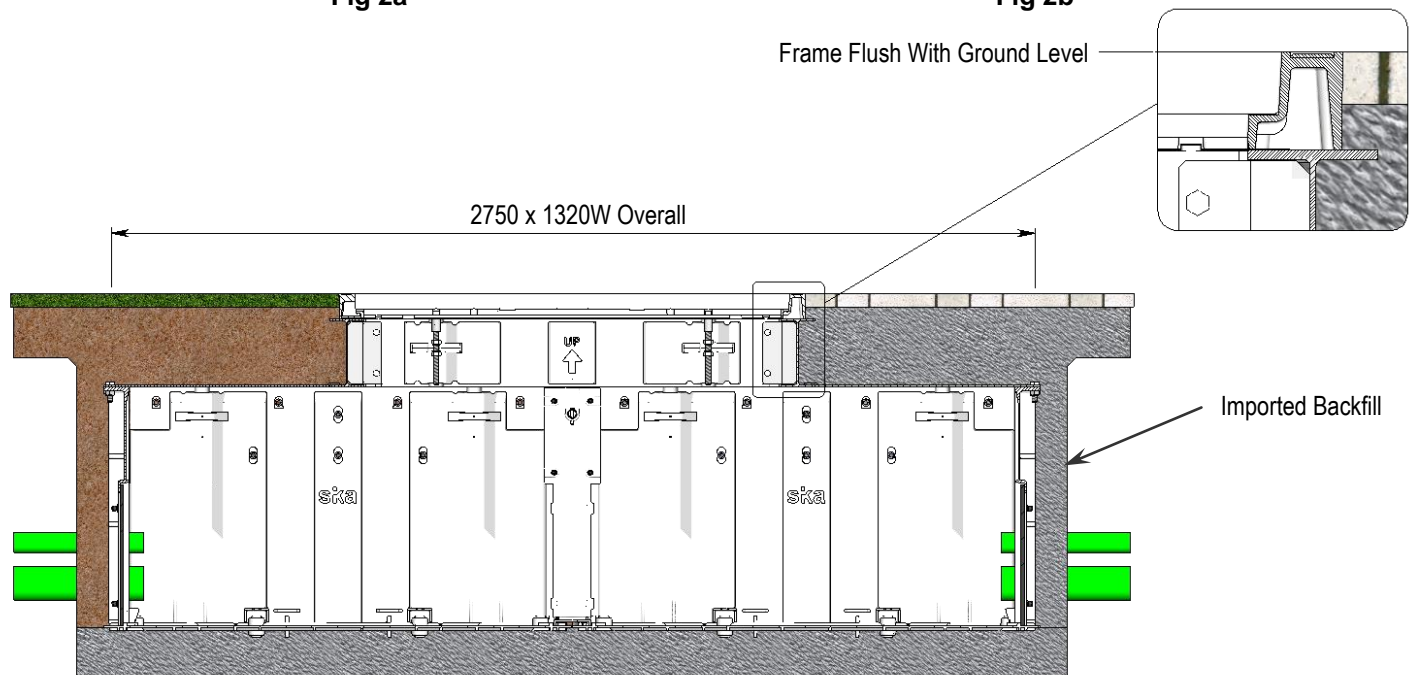

Fig 2c
Place the assembled **chamber and cover set channel frame**, including the **support beam**, into the prepared pit, or assemble all of the above in the pit, particularly if over existing duct work. Make level on compacted bedding to accommodate the chamber base at the required height so that the **cover set matches the finished ground level.** Ref Fig 2c
**Backfill** chambers with mechanically compacted layers of evacuated material if the material is of a suitable type. The compaction shall be of a standard equivalent or more than that of the surrounding ground. **If the evacuated earth is unsuitable imported hard fill shall be utilised.** Ref Fig 2c